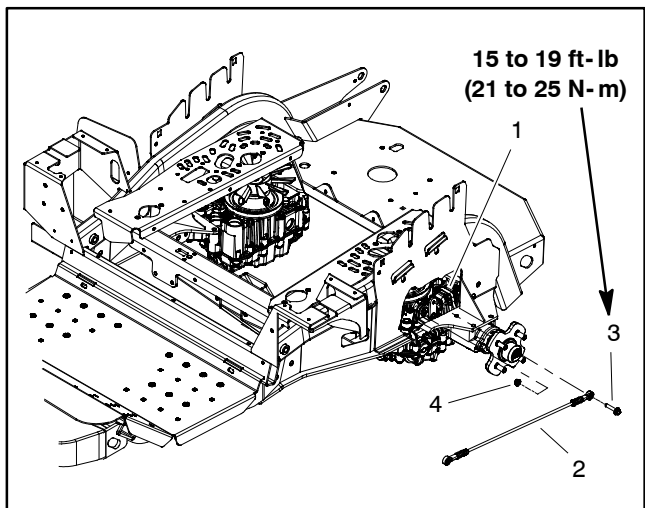

Figure 46
11. Disconnect rear pump linkage from transmission traction lever (Fig. 46).
3. Connect rear pump linkage to transmission traction lever with flange head screw and flange nut (shown in Fig. 46). Torque flange head screw from **15 to 19 ft-lb (21 to 25 N-m)**.